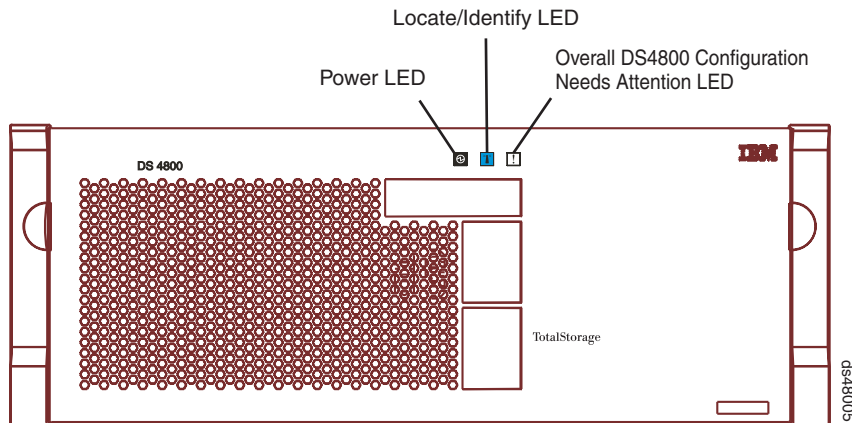

Figure 100. Overall DS4800 Configuration Needs Attention LED on the DS4800 front bezel
2. Locate the storage subsystem that has the failed SFP module by checking the Overall DS4800 Configuration Needs Attention LED on the front bezel of the storage subsystem. (Figure 100 on page 166 shows the location of the Overall DS4800 Configuration Needs Attention LED on the front bezel.)